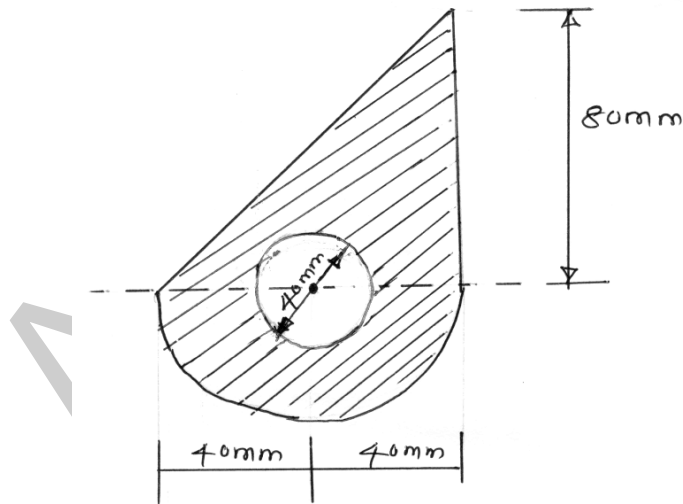

Fig. Q.13(b)
- (b) Locate the centroid for the lamina shown in Fig. Q.13(b).